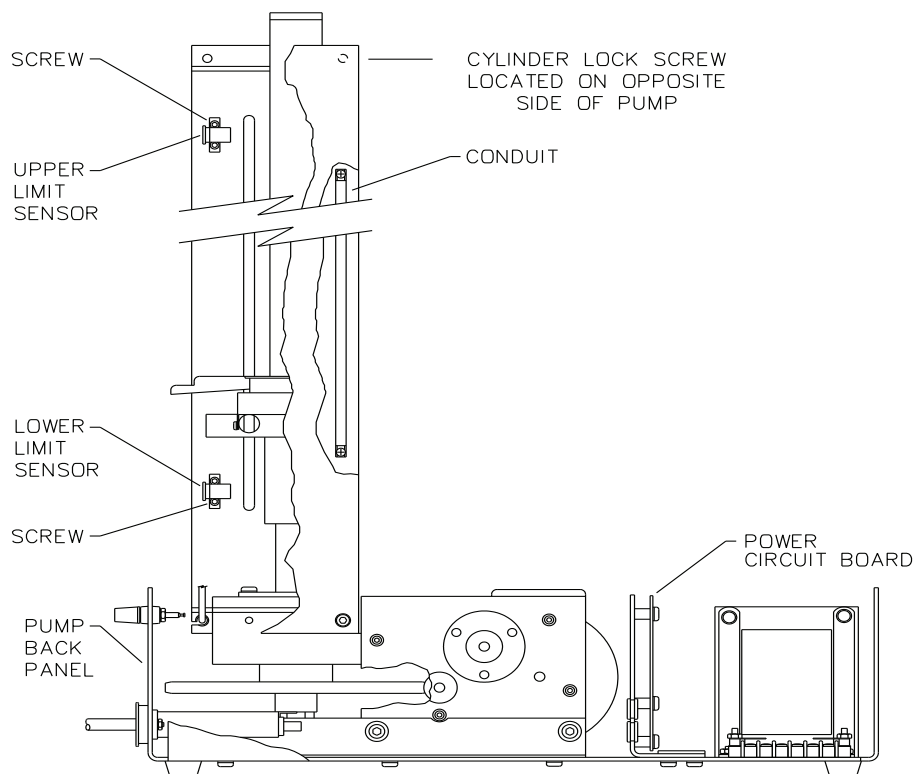

Figure 9-16 Limit sensor replacement
5. The limit sensor assembly includes two limit sensors, the wire harness and connector, and a conduit which protects the wires running between the sensors as shown in Figure 9-16.